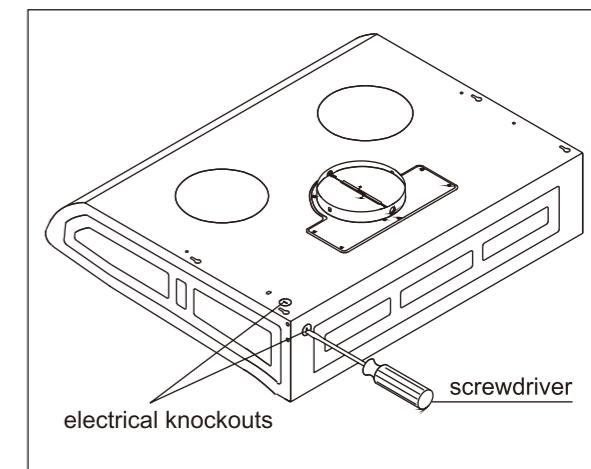

Fig.5 Electrical knockouts
1. Remove the top or the rear electrical knockout according to the location of the power cable. (Fig. 5)
2. Loosen the knockout with a screwdriver and use pliers to pull out the loosened knockout. (Fig.5 & Fig.6)